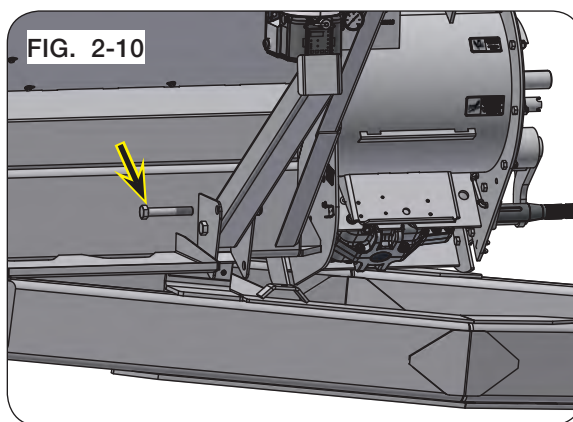

FIG. 2-10
15. Remove the 1"-8UNC x 6" capscrew (9390-195) and 1"-8UNC elastic locknut (9398-026). Rotate the support stands (276748B) upwards. Reinstall the 1"-8UNC x 6" capscrew (9390-195) and 1"-8UNC elastic locknut (9398-026). Repeat process on the opposite side of the grain cart. (FIG. 2-10)